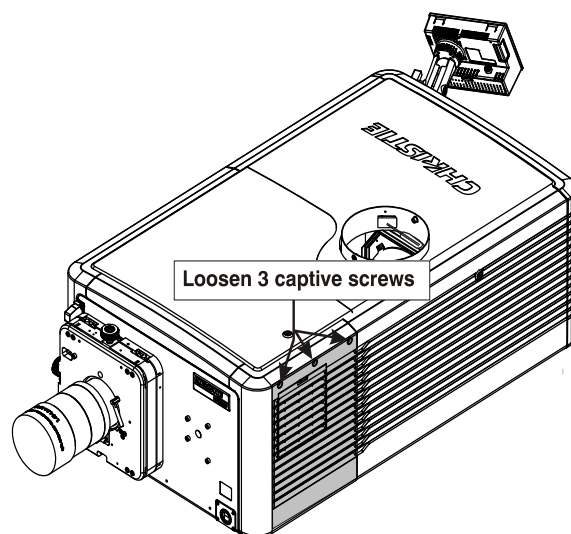

Figure 5-6 Remove Left Access Cover
1. Using a #2 Phillips, loosen the three captive screws at the top of the cover (**Figure 5-6**).